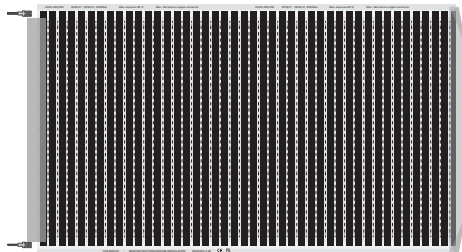

Fig. 6. Cover ends with tape
8. Seal all ends of the heating foil. In the end with connections, apply tape between the bus bars to be able to insert the terminals later. In opposite end, apply tape to the whole width. Tape shall be folded around the heating foil. (fig.6)